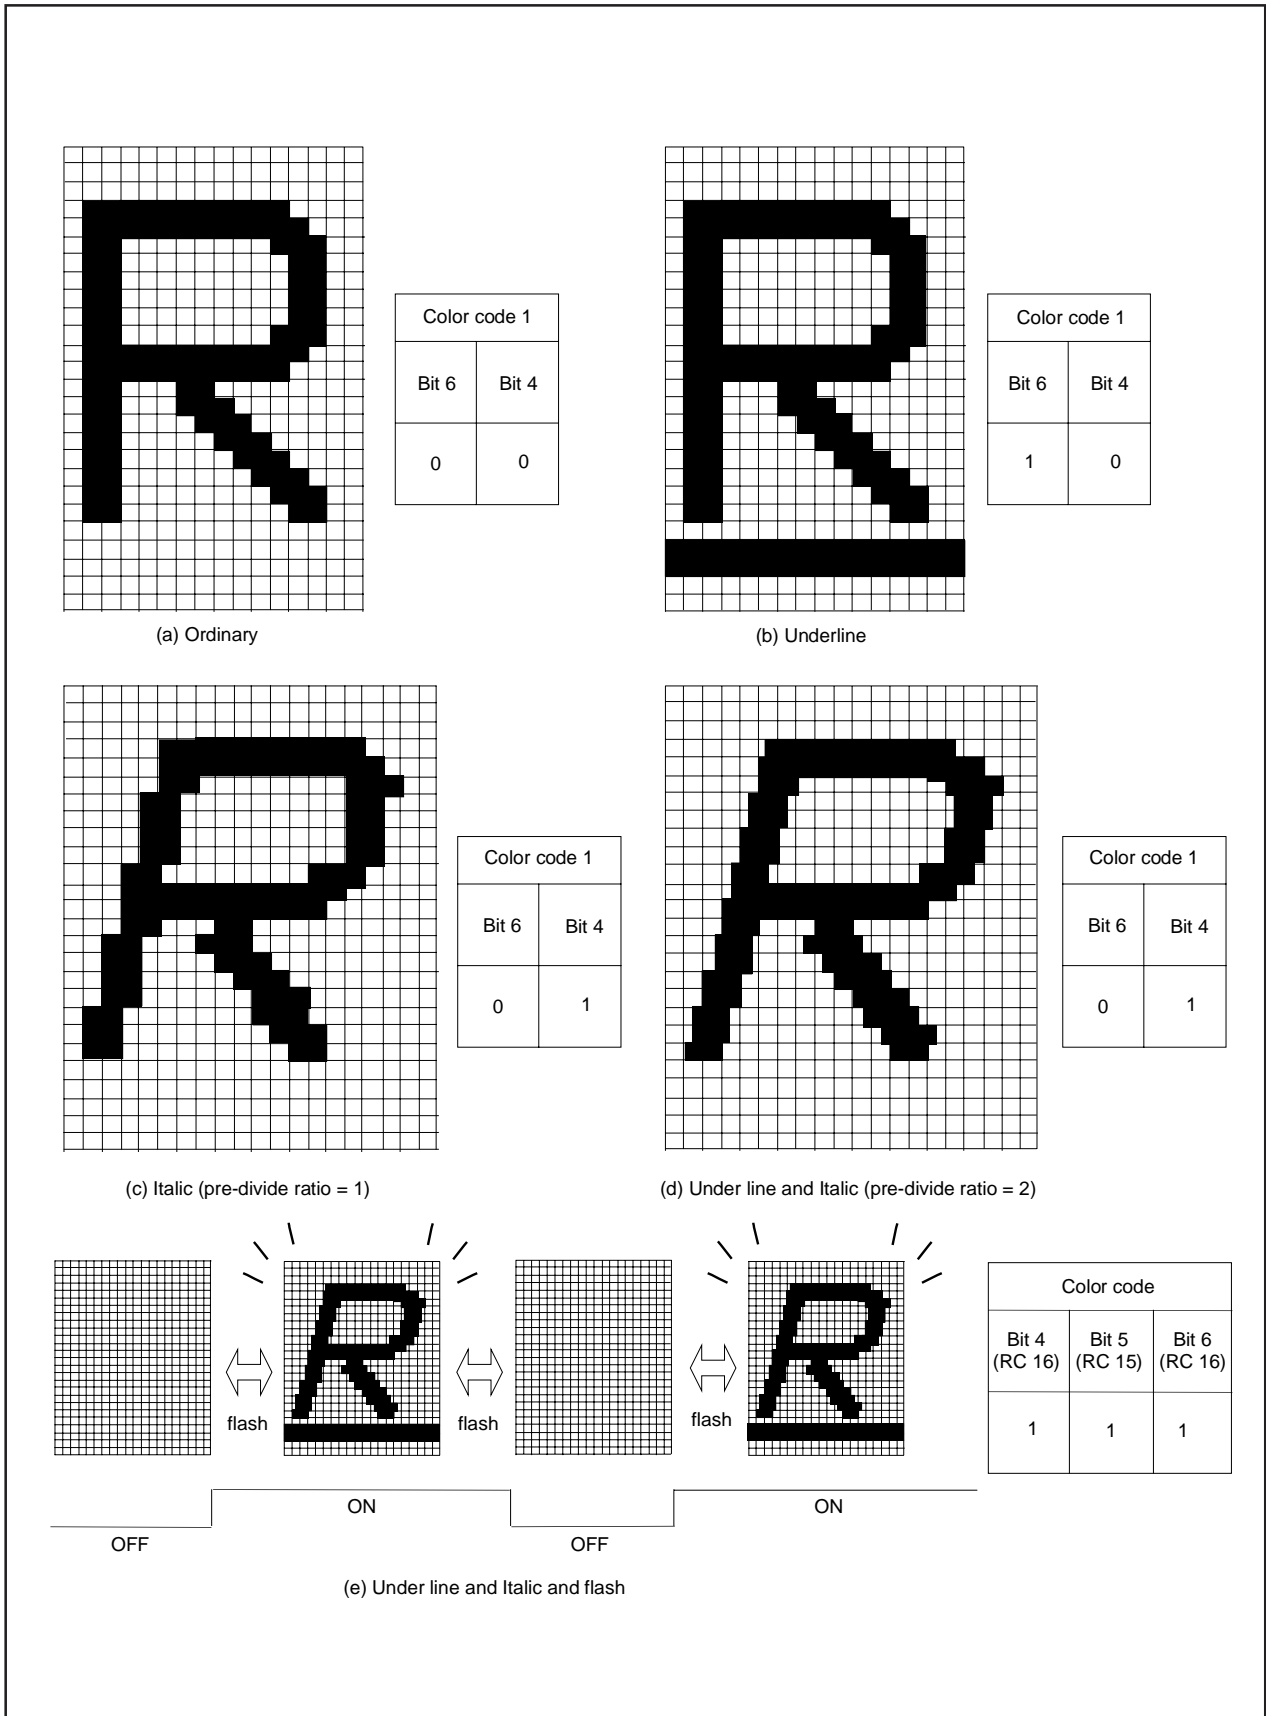

Figure 2.16.32 Example of attribute display (in CC mode)
**4:** When the pre-divide ratio = 1, the italic character with slant of 1 dot  $\times 5$  steps is displayed ; when the pre-divide ratio = 2, the italic character with slant of 1/2 dot  $\times 10$  steps is displayed (refer to Figure 2.16.32 (c), (d)). However, when displaying the italic character with the pre-divide ratio = 1, set the OSD clock frequency to 11 MHz to 14 MHz.